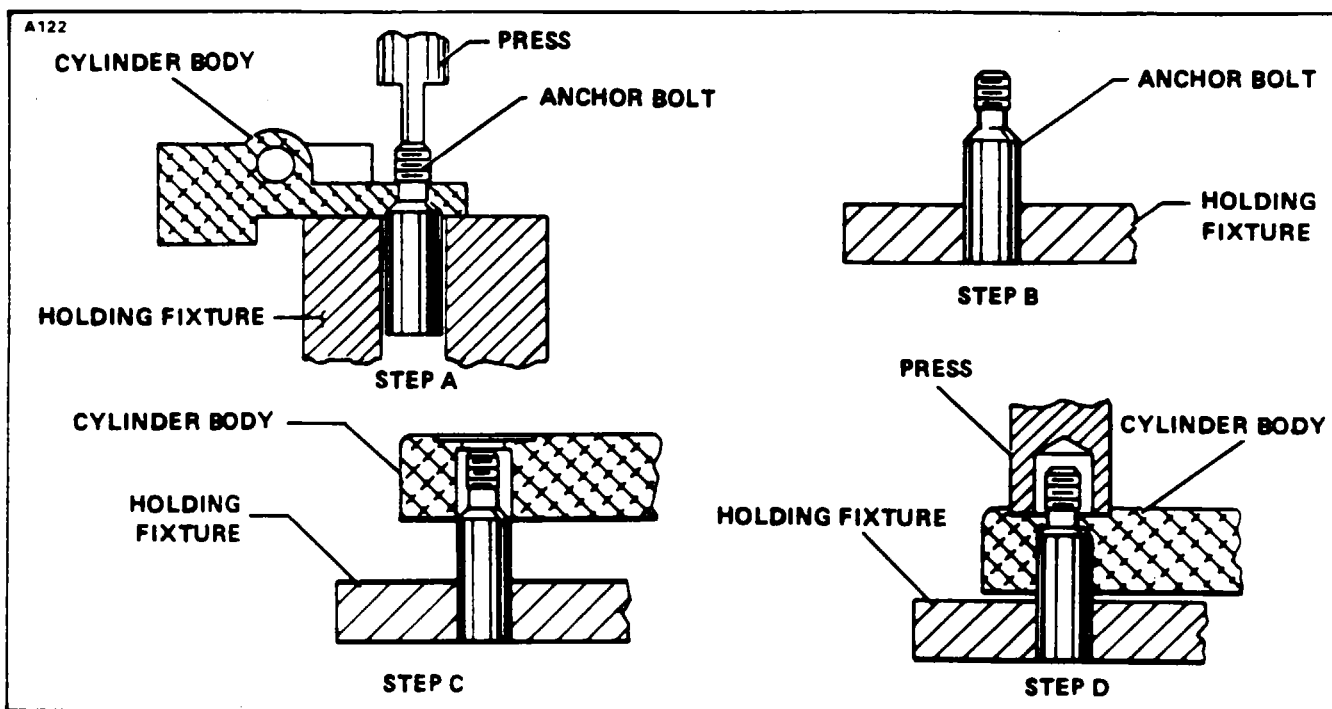

Figure 32-10. Removal and Installation of Anchor Bolts
- A. Position cylinder assembly on a holding fixture. (Refer to Figure 32-10, Step A.)
- A. Support anchor bolt in a holding fixture. (Refer to Figure 32-10. Step B.)
- B. Align cylinder body over anchor bolt. (Refer to Figure 32-10. Step C.)
- C. Use a suitable arbor press and apply pressure on the spot face directly over the anchor bolt hole. (Refer to Figure 32-10. Step D.)